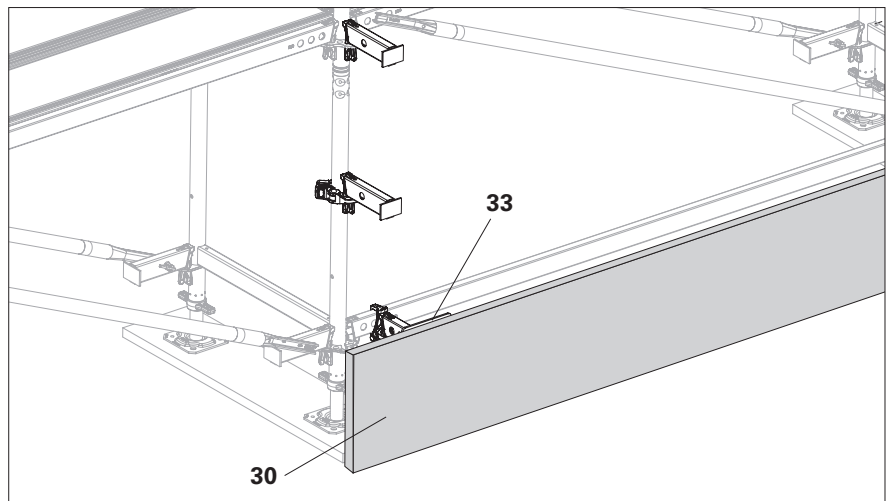

Fig. C4.05a
4. Fit the wooden panel (**30**) to the recessed console bracket. (Fig. C4.05a)